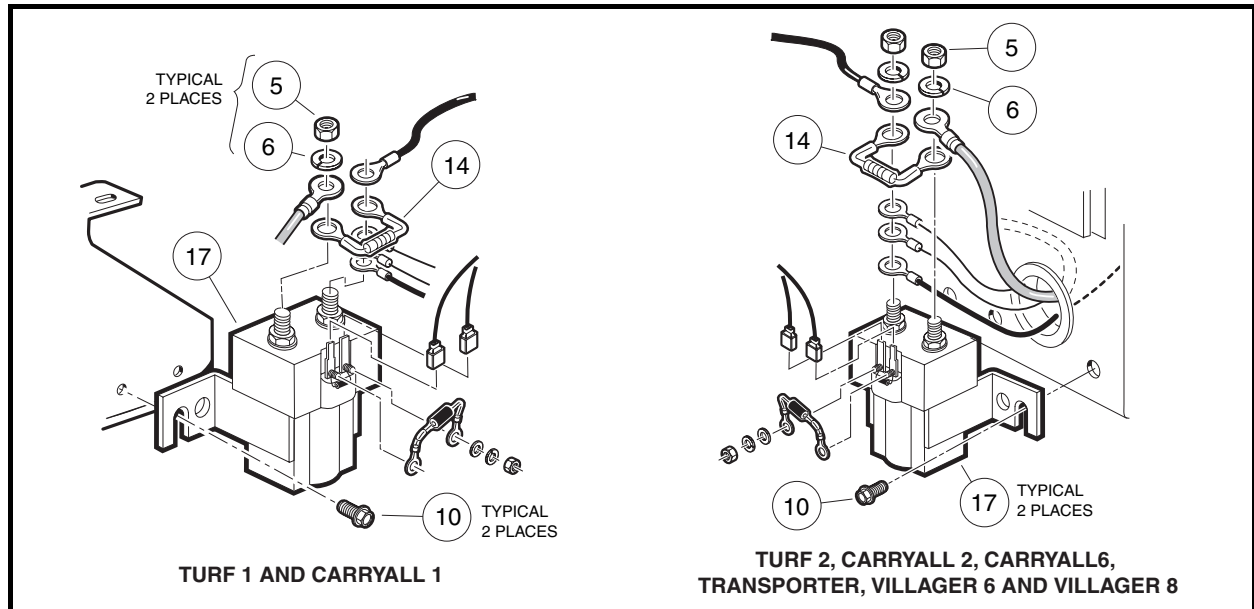

Figure 12-7 Solenoid Removal and Installation
The solenoid is located on the electrical component mounting plate (**Figure 12-7, Page 12-9**).
2. Disconnect all wires from solenoid. Remove resistor assembly (14) (**Figure 12-7, Page 12-9**).
3. Remove the two thread-rolling screws (10) and remove the solenoid (17).
1. Install the solenoid onto the mounting plate and tighten screws (10) to 50 in-lb (5.7 N-m).
2. Connect wires to the solenoid. **See Wiring Diagrams, Section 11, Page 11-2.** Tighten hex nut (5) to 60 in-lb (6.7 N-m) (**Figure 12-7, Page 12-9**).